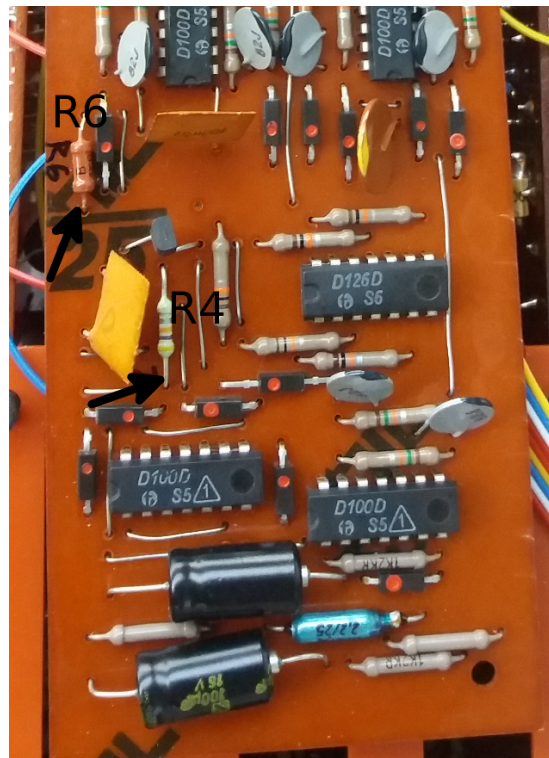
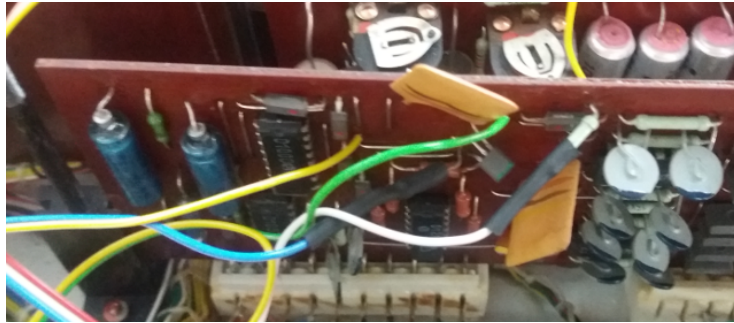

Figure 14: Desoldering one side of R4 and R6
Figure 15: Detail PCB R12 after soldering wires from the switch
1. Disconnect PCB R12 from socket. PCB R12 is located before PCB R6. Desolder one side of resistor R6 and R4 according figure 14. Arrows in figure 14 points to the side of both resistors which have to be desoldered.
2. Put one plastic tube on white wire (pin 5) of the switch and solder this white wire to free side of the resistor R6. Solder green wire of the switch (pin 8) to PCB R12 instead of the desoldered side of the resistor R6. PCB R12 after soldering, desoldering shows figure 15. Note: PCB R12 in figures 14 and 15 are from different ER9 modules. Therefore you can see minor differences. However, the location of R4 and R6 are the same.
3. Put one plastic tube on blue wire (pin 6) of the switch and solder this blue wire to free side of the resistor R4. Solder the yellow wire of the switch (pin 9) to PCB R12 instead of the desoldered side of the resistor R4. PCB R12 after soldering, desoldering shows figure 15. Note: PCB R12 in figures 14 and 15 are from different ER9 modules. Therefore you can see minor differences. However, the location of R4 and R6 are the same.